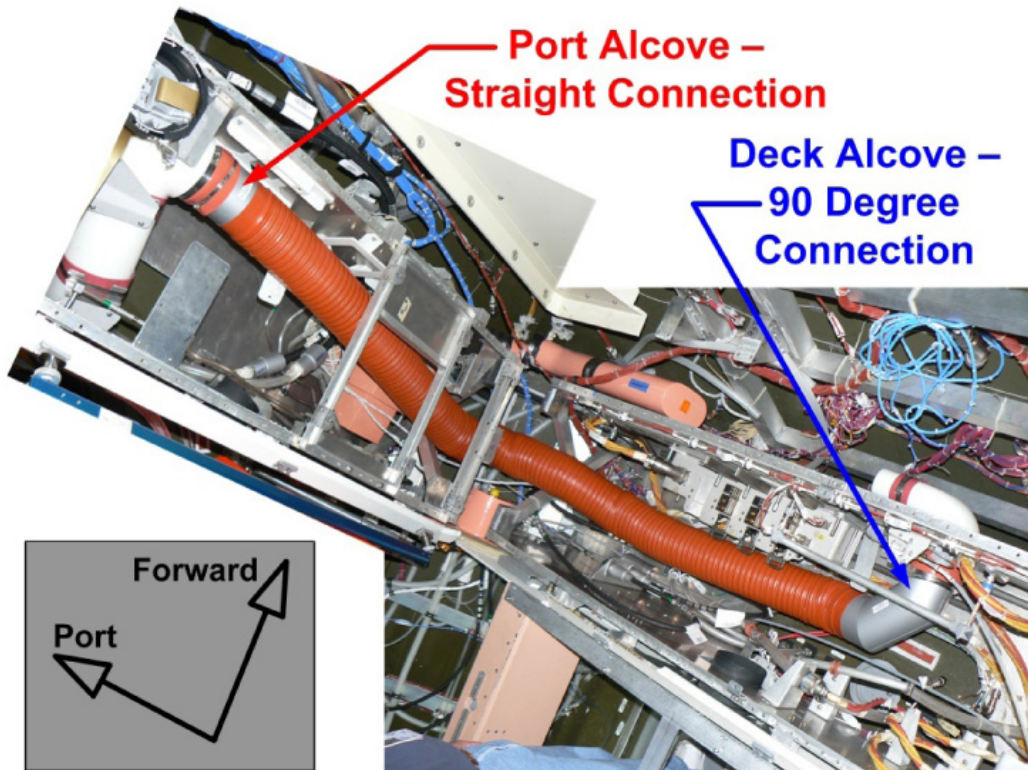

Figure 7. NOD1D1 to NOD1P1 IMV Duct Routing and Installation.
- NOD1D1 5.1 Loosen and remove Band Clamp (one) holding tape-reinforced bag over Deck Alcove IMV Return duct (1/4" Deep Socket, 1/4" Drive; 6" Ext, 1/4" Drive; Ratchet, 1/4" Drive). Temporarily stow Band Clamp and trash Ziplock Bag. Refer to Figure 7.
Refer to Figure 7.